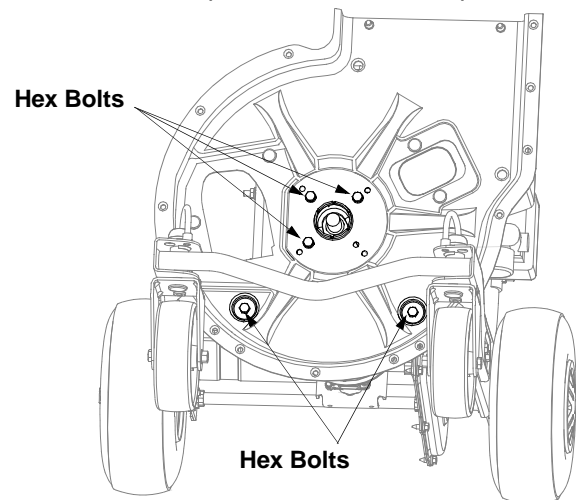

Figure 16
- Remove the inner housing and mounting adapter by removing the five hex bolts and two hex nuts. See Figure 16.
- Place the inner housing against the mounting adapter and the frame. Secure with five hex bolts and two hex nuts previously removed. Refer to Figure 16.